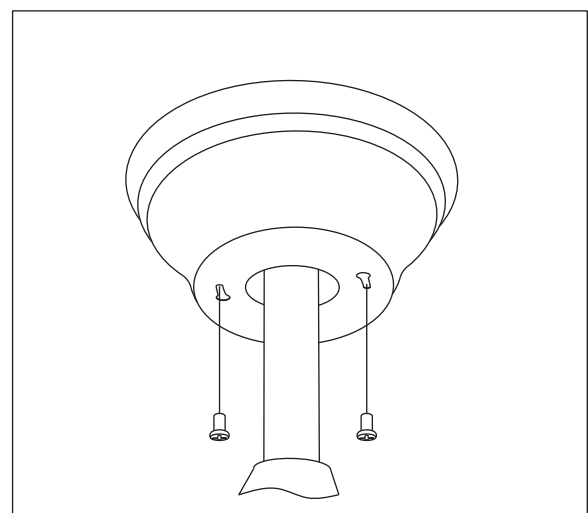

Figure 8
7. Mount the canopy by tightening the two screws. (Figure 8)